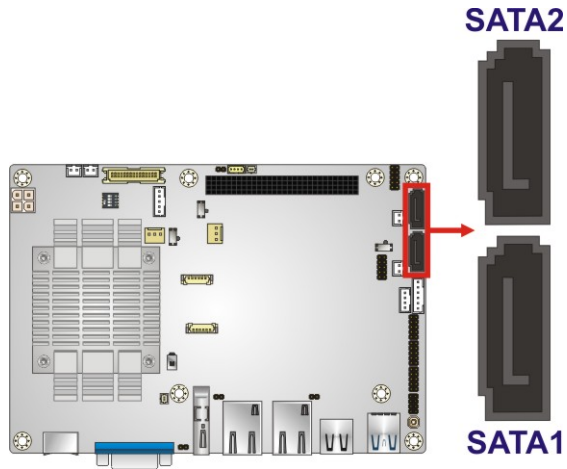

Figure 3-23: SATA 3Gb/s Drive Connector Locations
- CN Location:** See **Figure 3-23**